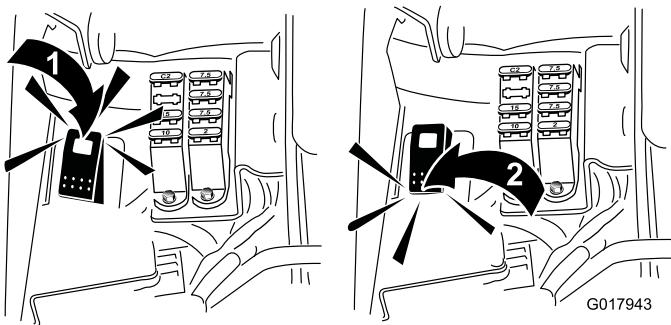

Figure 51
5. Switch the Backlap Switch to the reverse (R) position (Figure 51).